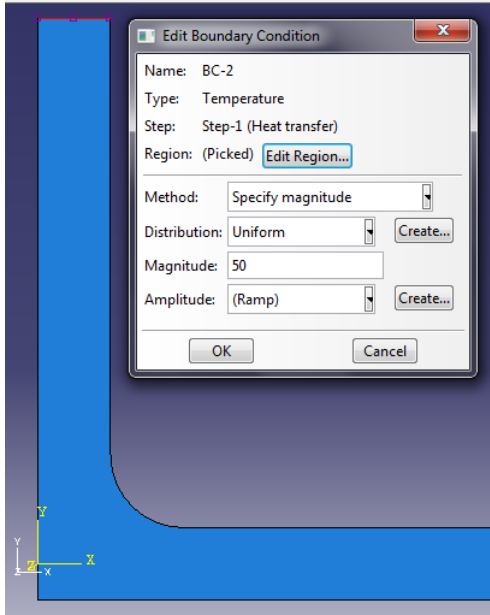

Figure 10
- Select the upper edge and apply 50K temperature as shown in Figure 10